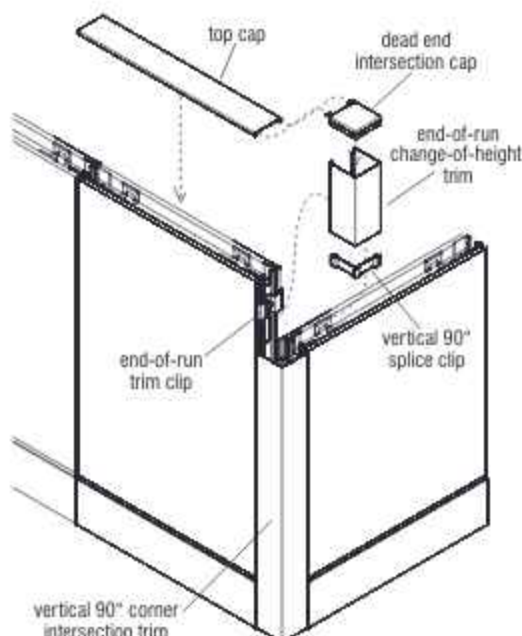

Figure 7 - End-of-Run 90° Change-of-Height Vertical Trim
**Note:** For equal-height intersections, one full-height vertical trim piece is required (Figures 3, 4, 5 & 6). For Change-of-Height Intersections, two stacked trim pieces are required to complete the intersection (Figures 7 & 8). At Change-of-Height intersections, the lower trim must install first and the upper trim stacks, then clips on above it.
1. Install a vertical splice clip into the top of the vertical 90° or in-line corner intersection trim (Figures 7 & 8).
2. Orient the appropriate "end-of-run change-of-height trim" with the top up, so it aligns properly with the installed end-of-run trim clip. Correctly positioned, the longer tabs of the trim will be to the top, and the smaller tabs with paint-hanging hole will be at the bottom. The bottom of the upper tabs will rest on the top edge of the end-of-run trim clip (Figures 7 & 8).
3. Hook one side of the end-of-run change-of-height trim onto the end-of-run trim clip. Rotate the hooked trim towards the un-clipped side, up against the trim clip and snap the trim into place by striking the loose side with a rubber mallet or the palm of your hand. Ensure that the clip(s) are fully engaged to prevent trim from falling off (Figures 7 & 8).
4. Finally, orient the "dead end intersection cap" as illustrated and insert the tabs of the cap into the narrow slots in the top cap. Mate the dead-end intersection cap into the top of the end-of-run change-of-height trim and snap the top cap into place at the top of the panel frame (Figures 7 & 8).